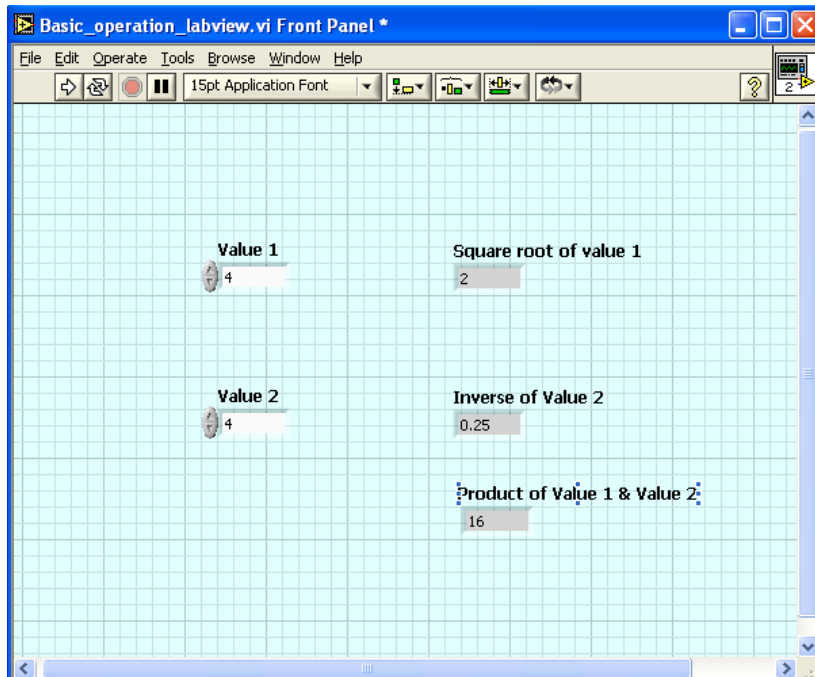

Fig 2: Front Panel with Numerical Controls and Numerical Indicator
- 7) Connect (or wire) the numerical controls and the indicators with the numerical functions as shown in the Fig 2.